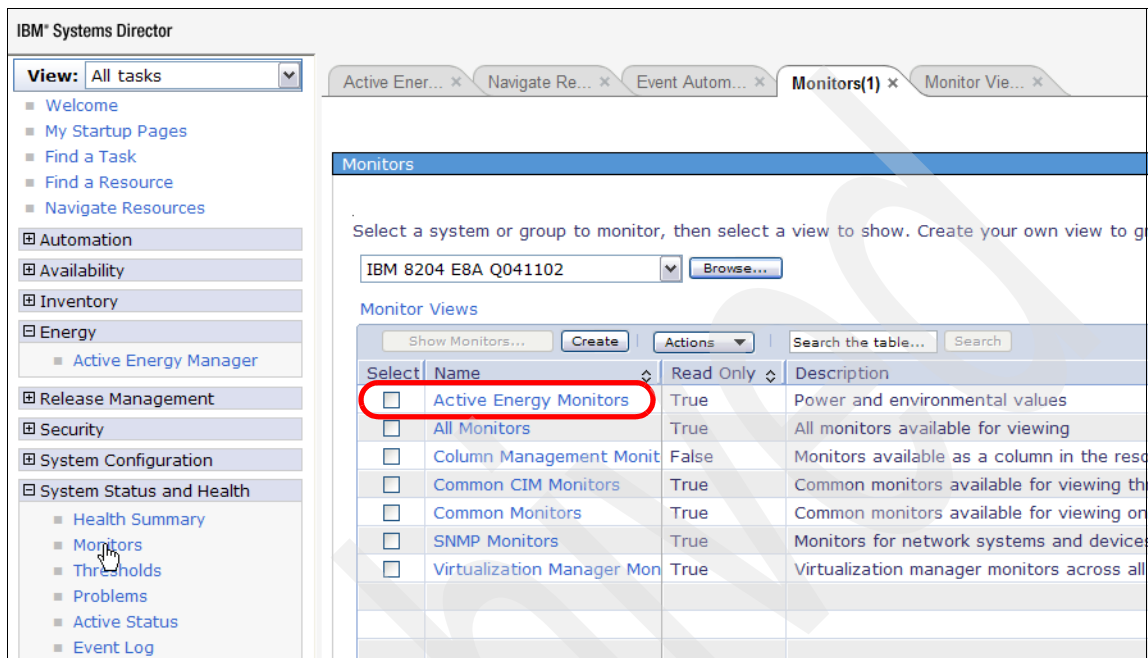

Figure 6-62 Viewing monitors using System Status and Health
4. Alternatively, you can click **System Status and Health** → **Monitors** to view the display shown in Figure 6-62. Click **Active Energy Monitors** to view a list of monitors for the resource shown in the Browse window.